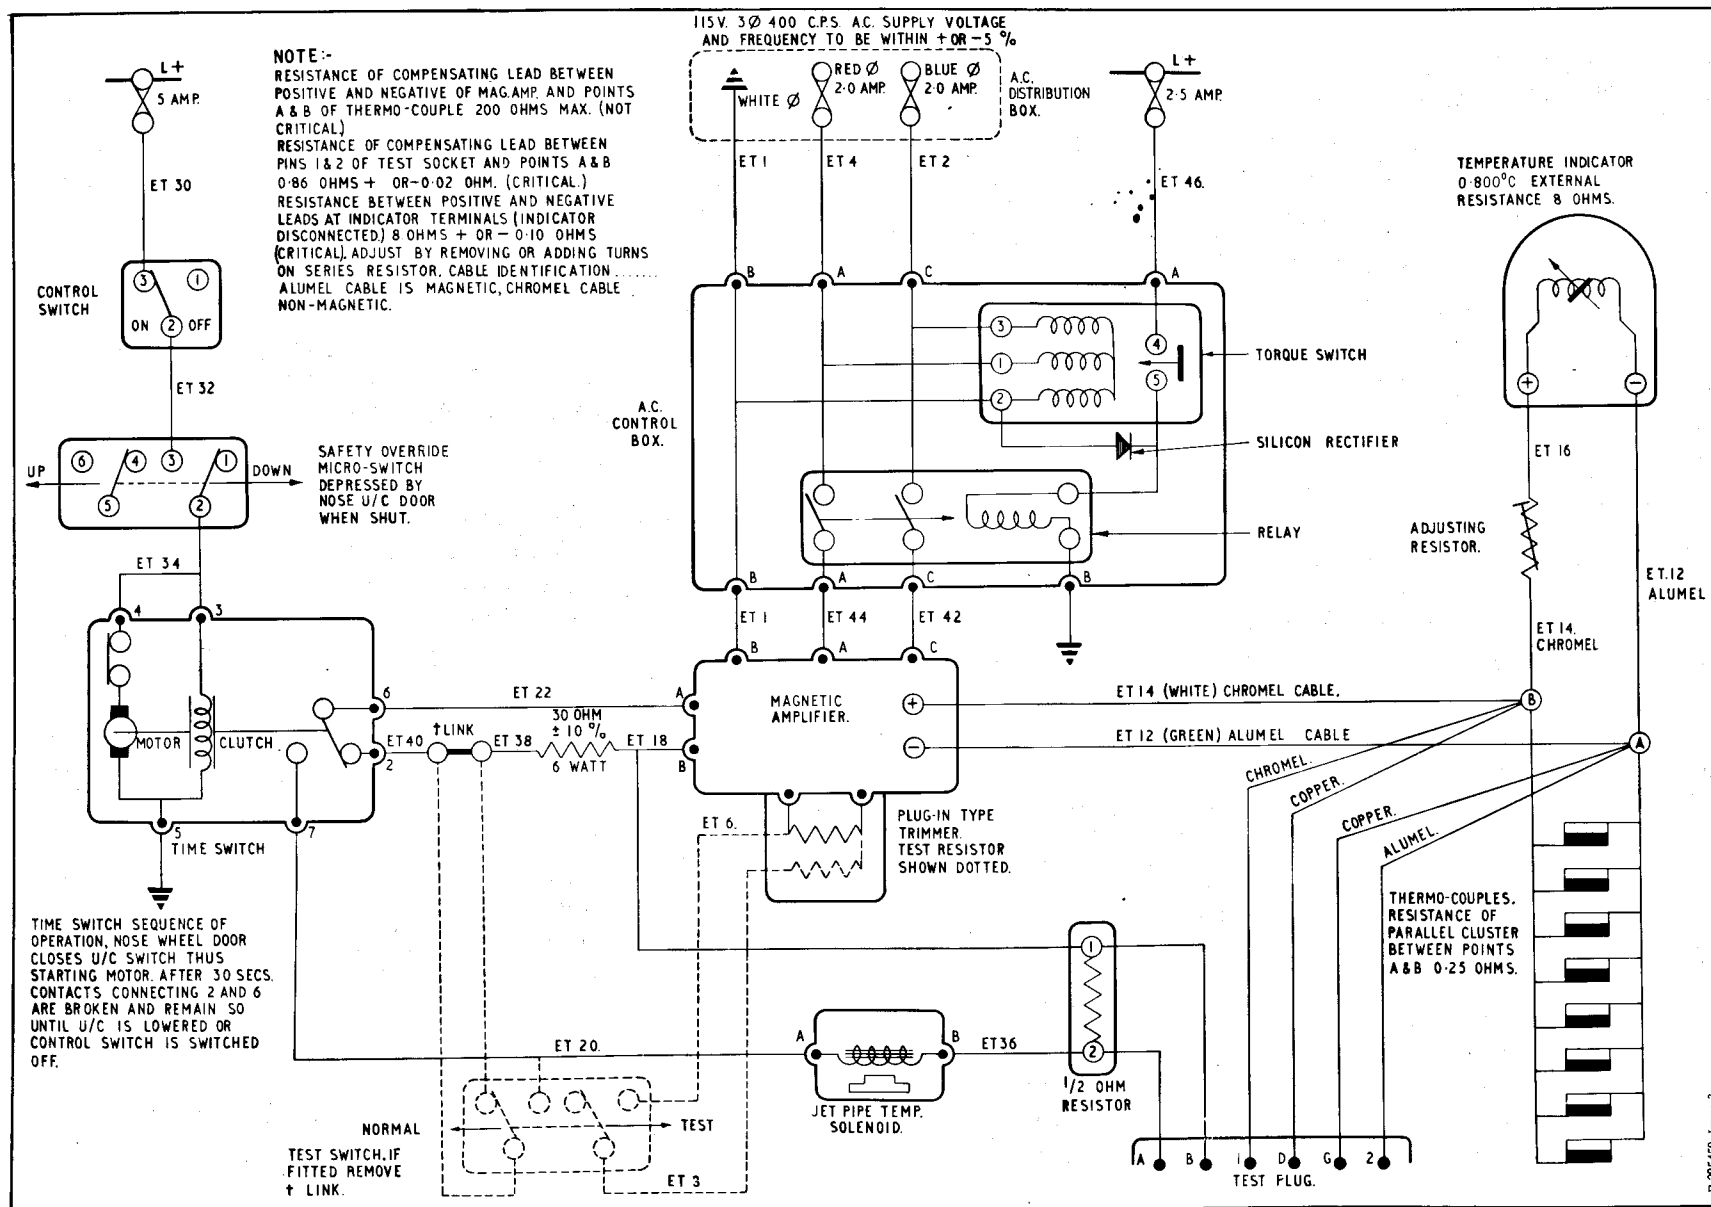

Fig.1 Exhaust gas thermometer and top temperature control (theoretical)
17. Check that the resistance of the compensating lead between positive and negative of magnetic amplifier and points B and A respectively (fig.1) does not exceed 20 ohms. Check that the resistance of compensating lead between pins 1 and 2 of test socket and points B and A respectively is 0.86 ± 0.02 ohms. Disconnect the positive and negative terminal on the exhaust gas indicator and check the resistance of the external circuit (extension leads and thermocouples) which should be $8 \text{ ohms} \pm 0.10 \text{ ohms}$; if necessary adjust the series ballast resistor, connected into the positive (chromel) wire, by removing or adding turns of wire to the resistor spool. The resistance of the thermocouple cluster as measured between points A and B is 0.25 ohms.